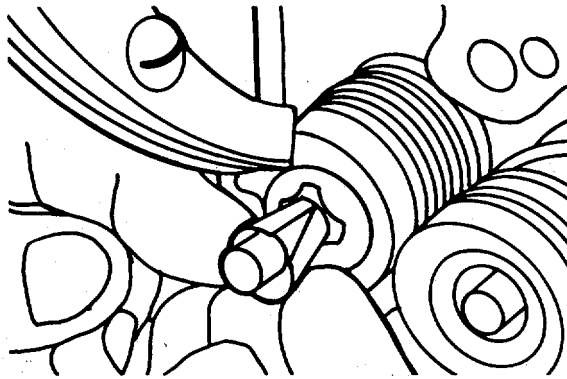

FIGURE 4-27. Installing New Valve Collets.
- d. Install new valve collets (1, FIGURE 4-8) and release the spring tension as shown in FIGURE 4-27.